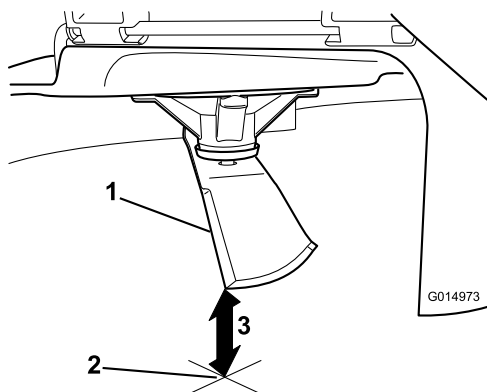

Figure 75
3. Measure from the tip of the blade to the flat surface (Figure 75).